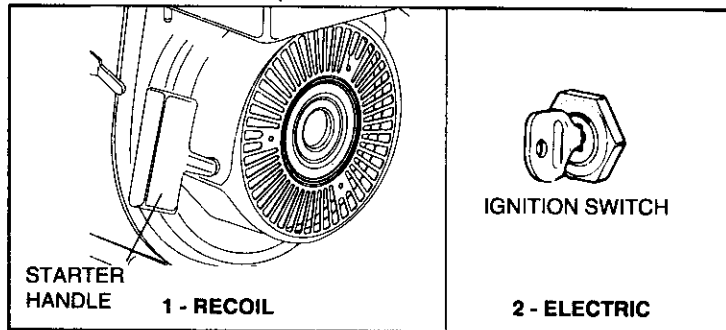

Figure 2
## ① RECOIL STARTER (see Figures 2 and 3):
C. Grasp starter handle (see Figure 2) and pull rope out, slowly, until it pulls slightly harder. Let rope rewind slowly. Then pull rope with a rapid full arm stroke. Let rope rewind SLOWLY. Do not let starter handle snap back against starter.
## ② ELECTRIC STARTER (see Figures 2 and 3):